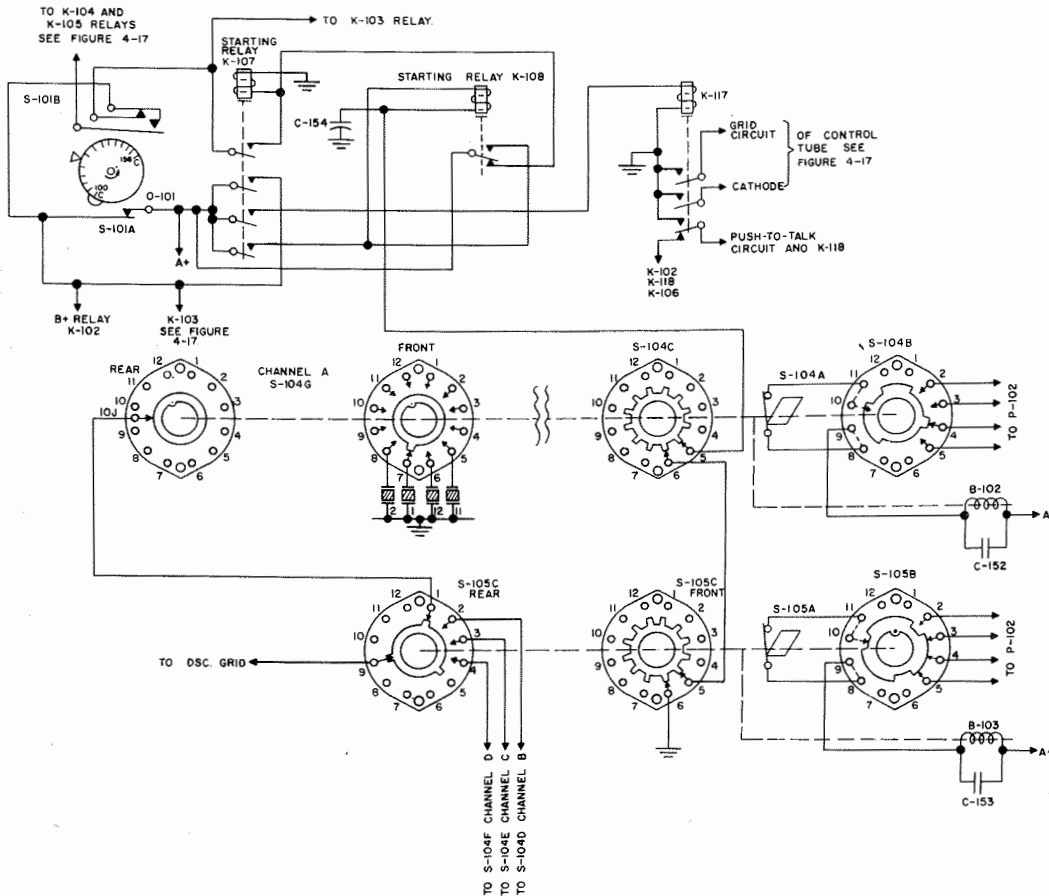

Figure 4-20. Radio Transmitter T-452/ARC-49—Starting Circuit
a. When a new channel is selected on the Control, Radio Set C-1400/ARC-49, ground is supplied to motors B-102 and B-103 through one or more of the control wires that connect to the control wafer (Wafer No. 1) of the motor-switch assemblies. The application of this ground causes the motors to rotate their associated switches in 30° steps in a clockwise manner until an open circuit condition is reached. (See fig. 4-20.) This open circuit position is a unique condition, i.e. there is only one position at which the motor ground is opened. This position corresponds to the Channel setting on the Control, Radio Set.
(1) S-105C Rear, in conjunction with either S-104D, S-104E, S-104F or S-104G connects the desired crystal to the grid circuit of the oscillator.
(2) S-104C Front or S-105C Front, while rotating, opens the ground connection on Relay K-108 momentarily, thus causing it to relax.
e. Cam O-101 which is being driven by the motor, is located on top of Variable Capacitor C-115. The upper face is calibrated to indicate frequency. (See fig. 4-20.) At one point along the circumference there is a small projection. As the cam enters the uncalibrated portion of its travel this projection strikes an extended arm on switch S-101A and pushes it to one side. This separates the contacts of the switch until the projection has rotated past. This has no electrical effect, since the switch contacts are shorted by a contact on relay K-107. As the cam again re-enters the uncalibrated portion of its travel, it closes the normally open contact of switch S-101B, but has no electrical effect since its contacts are shorted by the energized contacts of relay K-103 and switch S-101A. As the cam progresses it opens the normally closed contacts of switch S-101B momentarily removing A+ connection from relay K-107 and causes it to open. Since its contact opens, the relay now has no connection to A+ and cannot close again. Relay K-117 also opens and remains open.